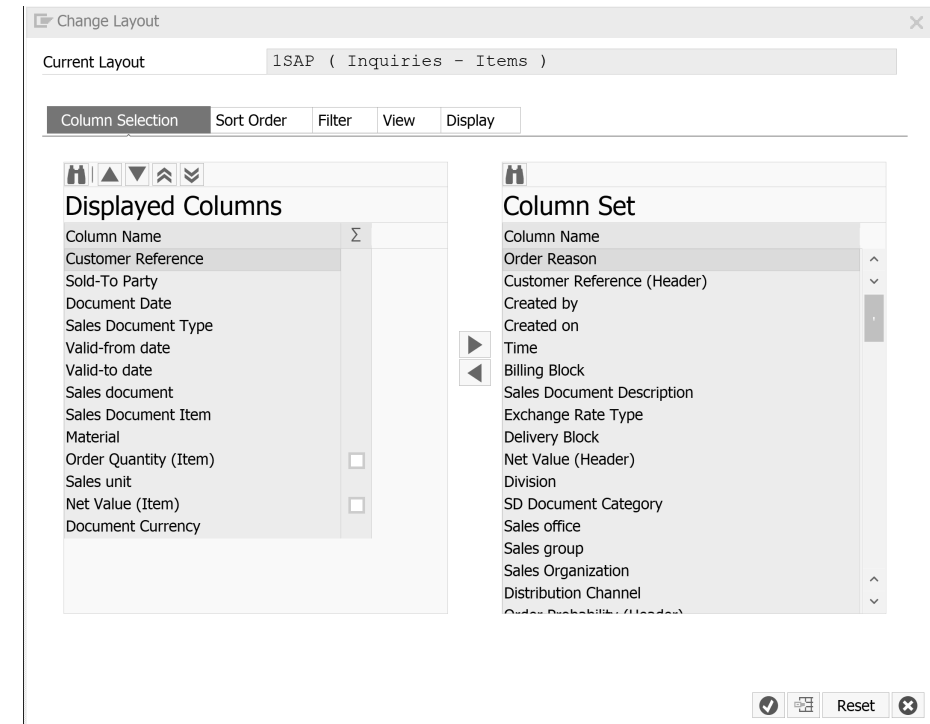

Figure 4.46 List of Inquiries: Change Layout Dialog Box
From here, you're presented with a dialog box showing your currently selected layout (in this example, **1SAP ( Inquiries – Items )**), as shown in Figure 4.46.
6. Notice that some fields, such as **Order Quantity (Item)** and **Net Value (Item)**, have a checkbox available next to them in a sum column (refer to Figure 4.46). Check this box to prominently display the column total at the bottom.